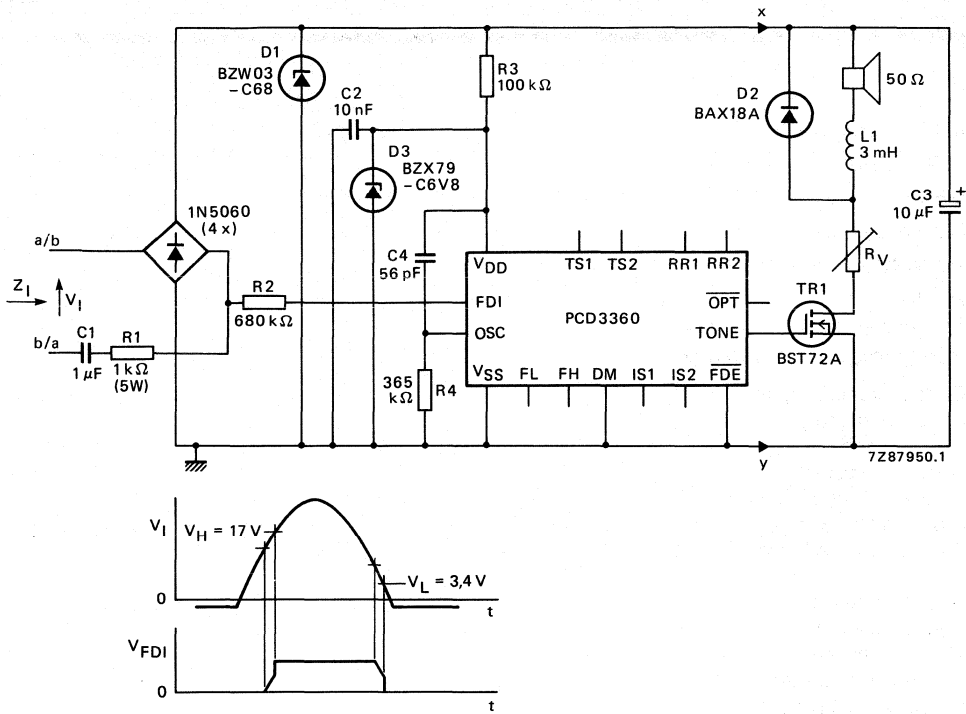
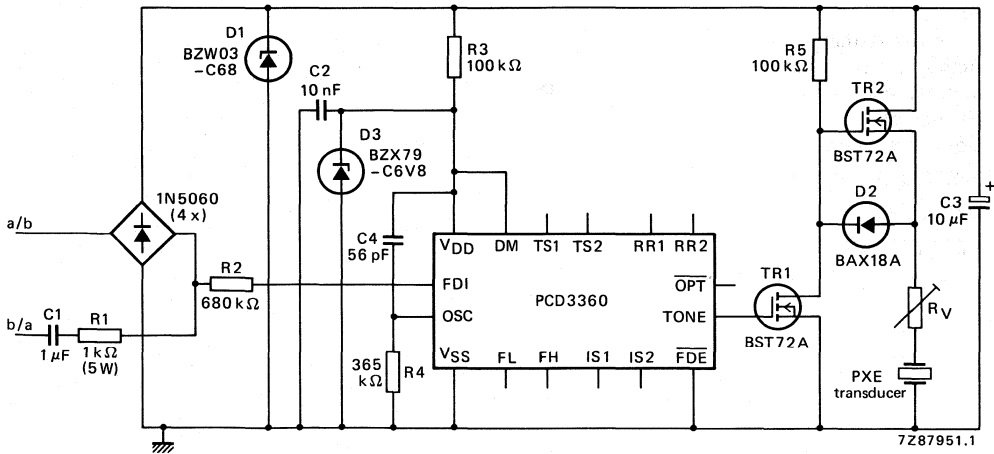

Fig. 8 Transformerless electronic ringer with PCD3360 and a loudspeaker.
Fig. 9 PCD3360 ringer with PXE transducer.
Application of the PCD3360 in a telephone ringer circuit together with a loudspeaker is shown in Fig. 8.
- The value of R2 (680 k Ω in Fig. 8)
- The value of R3 (100 k Ω in Fig. 8)
Application of the PCD3360 together with a PXE transducer is shown in Fig. 9. The only significant difference between Fig. 8 and Fig. 9 is the output stage. Two BST72A transistors provide an output voltage swing almost equal to the voltage at C3. Pins IS1 and IS2 are inoperative because $\text{DM} = \text{HIGH}$. Volume control is possible using resistor R_V .